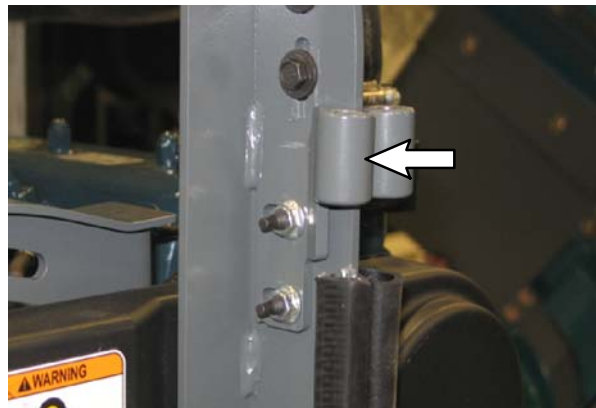

FIG. 59
74. Use two hex screws (11) and two hex nuts (13) to install each of the side door hinges (37) onto the support brace (31). Do not completely tighten hardware. Hardware is tightened during later adjustment. (Fig. 59)